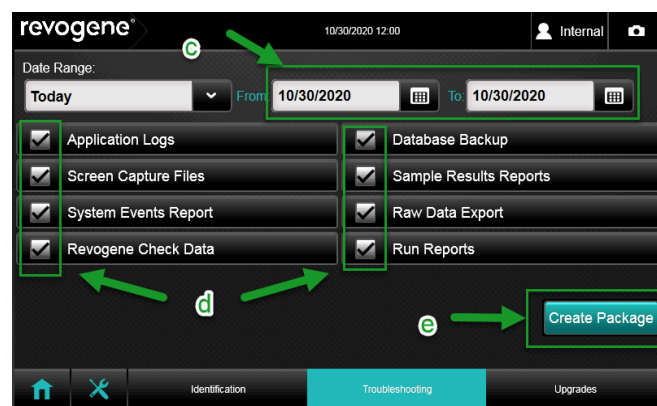

Figure 20. Troubleshooting Package Parameters
- c. Select the date range that covers the period in which the runs were executed. **Note: If you executed a repeat, make sure the ranges cover the initial run and the repeat** (Figure 20, c).
- d. Tap all the checkboxes so they are checked (Figure 20, d).
- e. Tap the "Create Package" button (Figure 20, e).